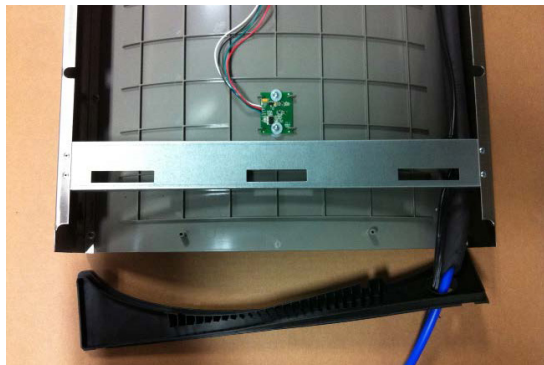

Fig. 10
- 5) Feed power cord & 3/8" water line through hole in tower/basin gasket (See Fig 10).